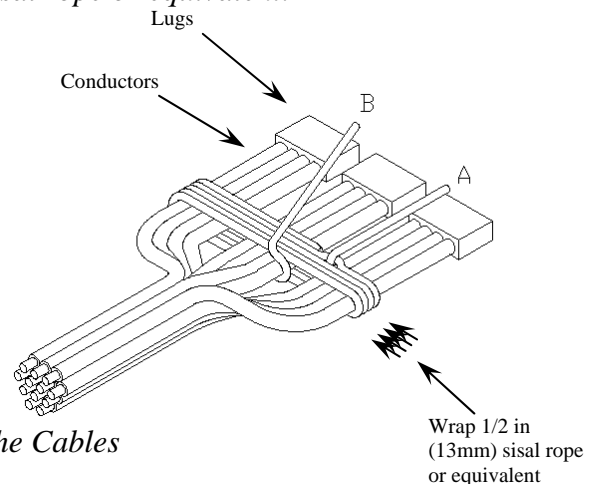

Figure 7: Wrapping the Cables
1. Begin wrapping the conductors (Figure 7) 6 inches from the end of the lugs
- a. Wrap the conductors four (4) times as shown, leaving 3 ft (1 m) of excess rope at the first end (A).
- b. Pull the rope (B) taut.